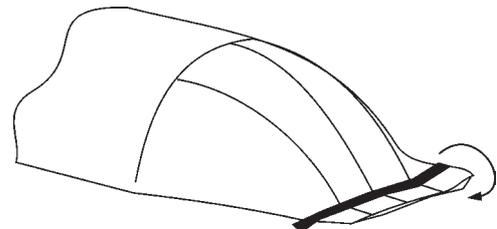

Figure 20 - Filling of the silo bag front end
6) Start feeding grain gradually, checking that the end of the grain bag is adequately filled and is lying evenly on the ground as shown in Figure 20. Remember that the front end of the grain bag must be turned over.